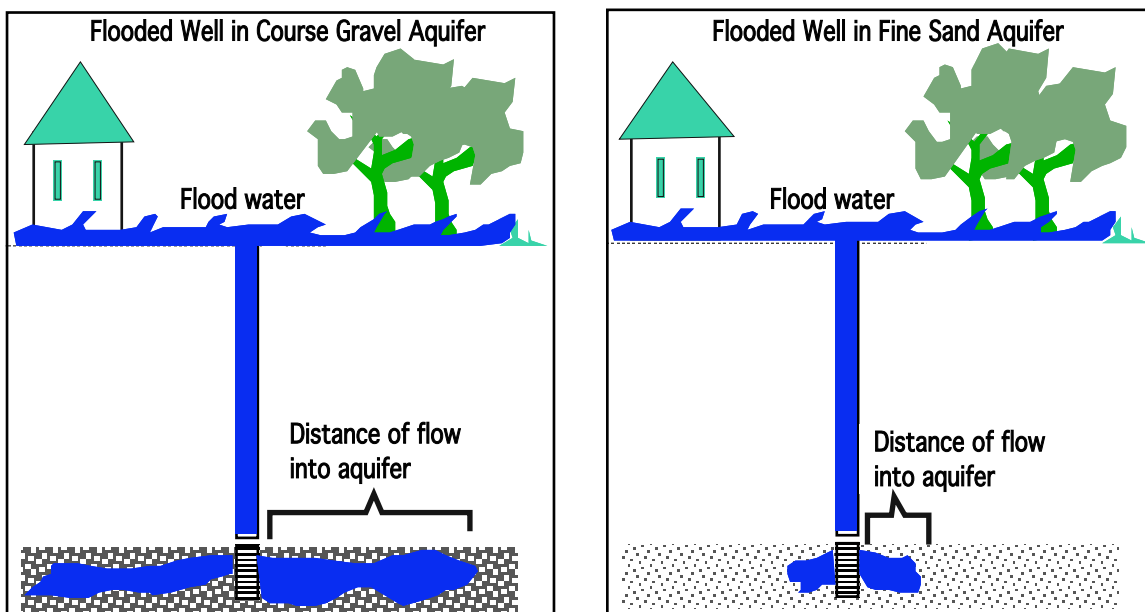

Fig 1
1. The type of aquifer. If a well was completed in coarse gravel versus fine sand, wouldn't you expect the coarse gravel would more easily take more flood water and allow the water to transmit deeper into the aquifer? See Fig 1. A well with an high Specific Capacity (a more Permeable aquifer) will allow deeper penetration into the aquifer and may be more difficult to clean than a well with a low Specific Capacity.
5. The type of bacteria. Just because a well is flooded, does not necessarily mean there is E. coli or fecal coliform in the surface water flooding the well. You might suspect that there is quite a variety of bacteria. These can include common soil organisms (most are non-pathogens); Opportunistic pathogens (OP); and a high potential for protozoa, and nematodes.